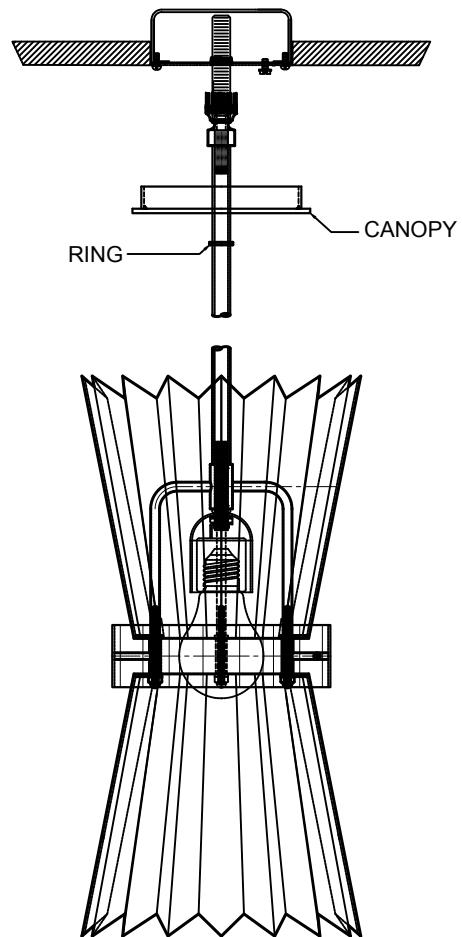

FIGURE-02
8. Lift the canopy and the swivel ring up the stem. Tighten the ring to hold the canopy in place. (See Figure-02)